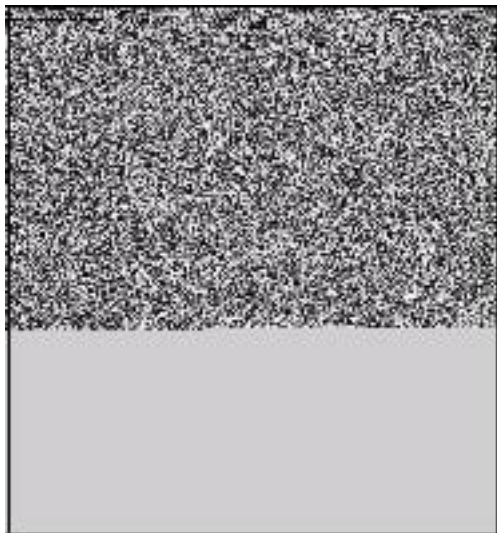

Fig. 114
9. Remove idle speed screw ([A] Fig. 114).